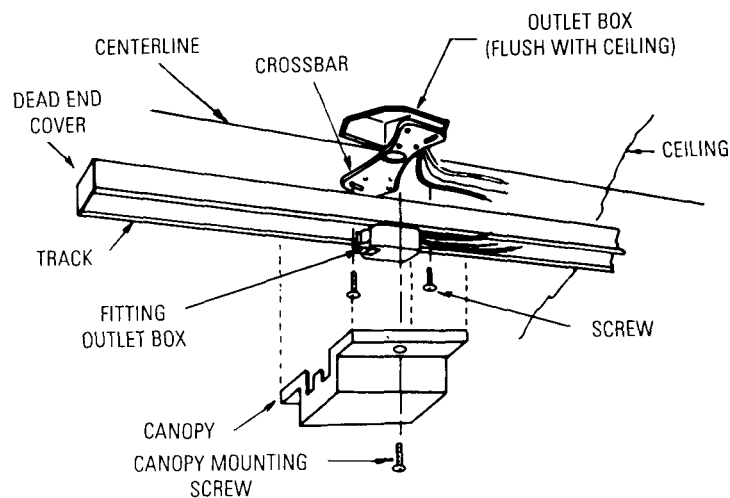

FIG. 1
1. Attach CROSSBAR to OUTLET BOX as shown in Fig. 1.